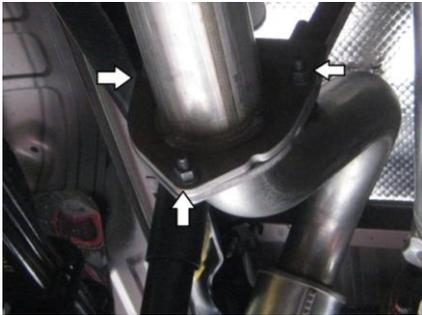

Figure 6
2. Loosen the three (3) nuts securing the extension pipe flange to the over-axle pipe. **Refer to Figure 6.**